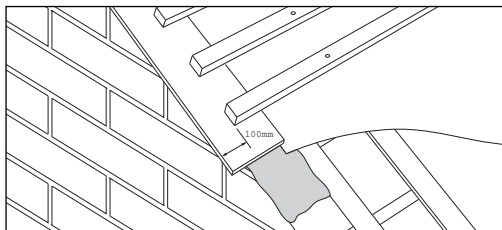

Fig 14 – Fibre cement undercloak fitted over tiling batten
- 2 Place undercloak below battens, overhanging by maximum of 50mm (Fig 14).